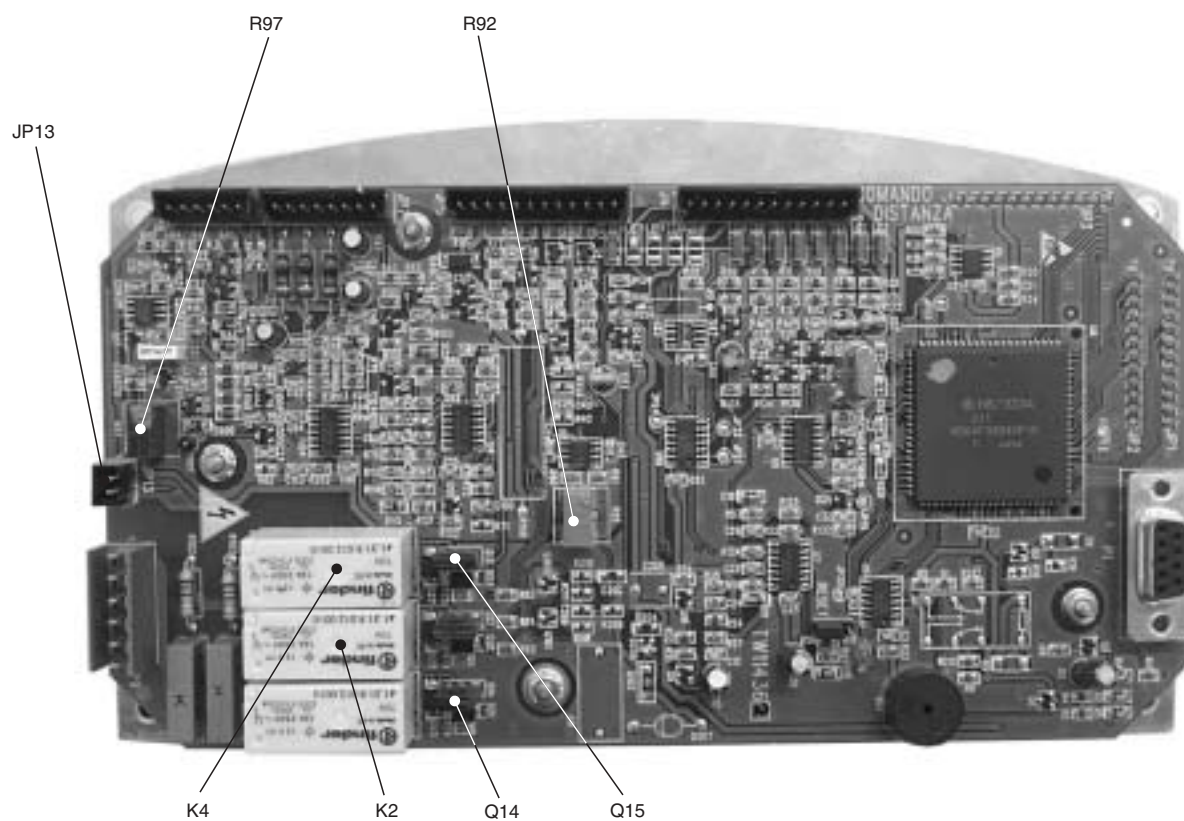

**FIG. 5**
- the waveform displayed on the oscilloscope resembles **Fig.G** and the frequency is equal to  $+32.5\text{KHz} \pm 5\%$ ; if the frequency reading on the oscilloscope is not  $32.5\text{KHz} \pm 5\%$ , adjust the frequency using trimmer FREQ R106 for the control board, 1st version, or R97 on the control board, 2nd version (**fig. 5**).
- the output current is equal to  $+250\text{Adc} \pm 5\%$  and the output voltage is equal to  $+30\text{Vdc} \pm 5\%$ ; if the output current reading is not  $250\text{A} \pm 3\%$ , adjust the current using trimmer IMAX R92 on the control board (**fig. 5**).
- the output current is equal to  $+350\text{Adc} \pm 5\%$  and the output voltage is equal to  $+34\text{Vdc} \pm 5\%$ ; if the output current reading is not  $350\text{A} \pm 3\%$ , adjust the current using trimmer IMAX R92 on the control board (**fig. 5**).
- the voltage over the female fastons is equal to  $230\text{Vac} \pm 10\%$ . If voltage is present this means the solenoid valve is faulty, otherwise check that the voltage on the secondary of the auxiliary transformer T2 is equal to  $230\text{Vac} \pm 10\%$  (**fig. 3**) and that the relay K4 on the control board closes (**fig. 6**). On the contrary, check the functioning of K4, Q15 and R63 on the control board (**fig. 5**).
- the HF generator board starts to hum for about 2 seconds (high frequency in torch); otherwise make sure the voltage over female fastons J1 and J3 (**fig. 4**), disconnected from the HF board, is equal to  $230\text{VAC} \pm 10\%$ . If voltage is present the HF board is faulty; if not check the operation of K2, Q14 and R62 on the control board. (**fig. 5**).